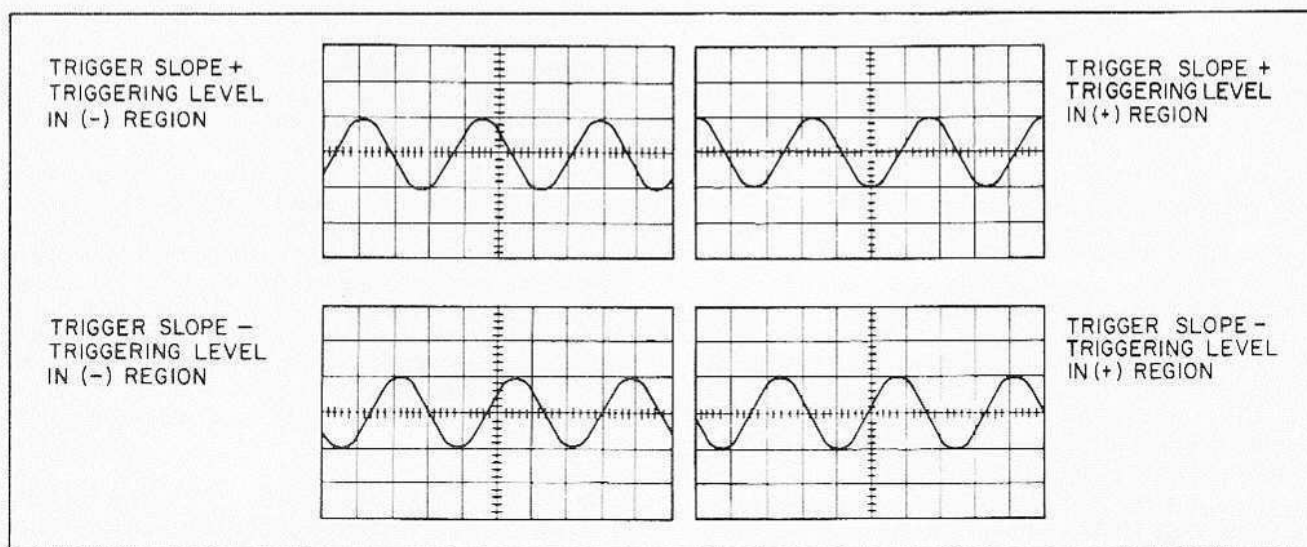

Figure 4-5. Displays as Effected by Trigger Level Control
- b. Rotate the TRIGGERING LEVEL control toward either the +, -, or 0 position to obtain the desired display (see figure 4-5).